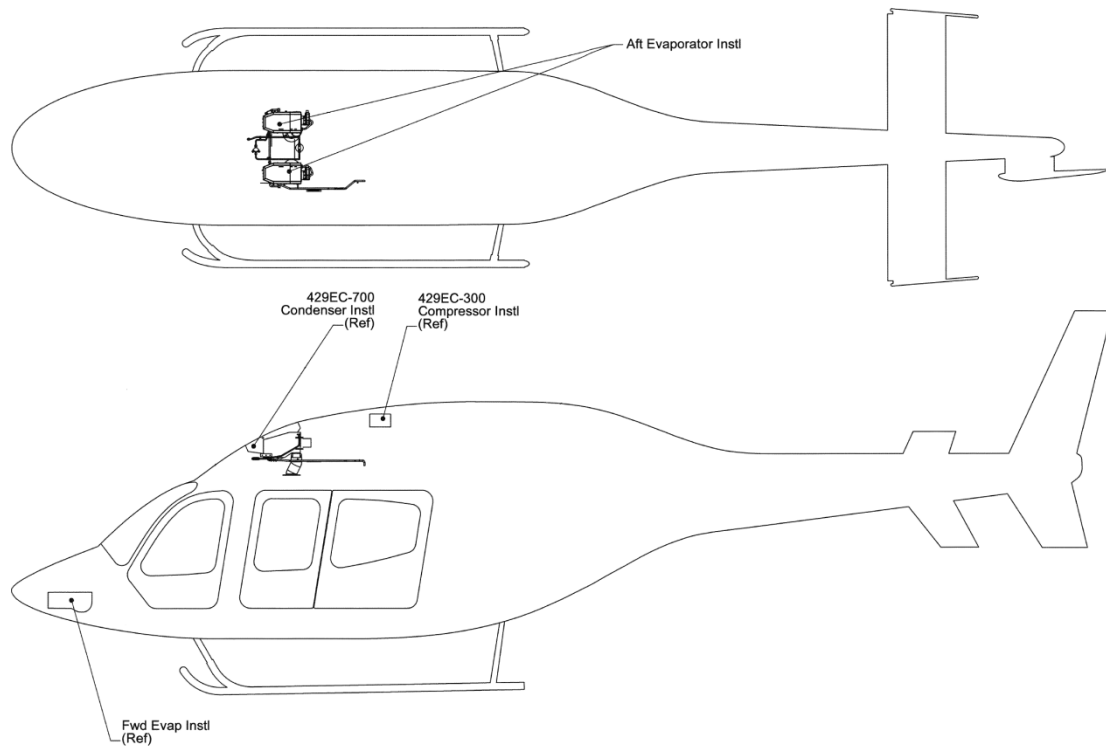

Figure 1: 429EC-200; Existing Dual Aft Evaporator Condensate Drain System
- a. Remove upper cowlings and interior panels as necessary to gain access to the aft evaporators and condenser and for installing drain line bulkhead fittings and routing new drain lines within aircraft structure. (Figures 1, 2, 3, 4)